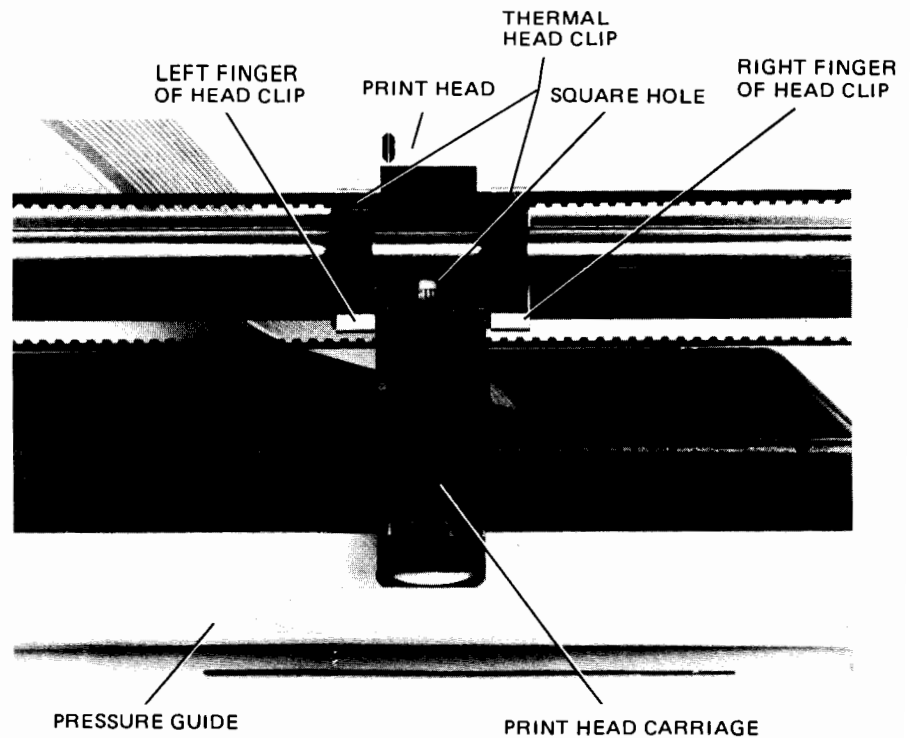

Figure 7-16. TPM Front View
4. Slide print head carriage down to the middle of the TPM. (See figure 7-16.)
1. Put the TPM on the edge of a table top with the pressure guide and print head carriage facing you. The pressure guide needs to hang over the edge of the table. (See figure 7-16.)
3. Slide the print head up between the print head carriage and the thermal head clip. (See figure 7-16.) Do not bend flex cable where it connects to the print head because the wires will break.
5. Look through the square hole of the print head carriage. Be sure that print head ceramic is seen in half of the square hole, and that flex cable is seen in the other half of the square hole. (See figure 7-16.)
6. Latch the left and right fingers of the thermal head clip. (See figure 7-16.)